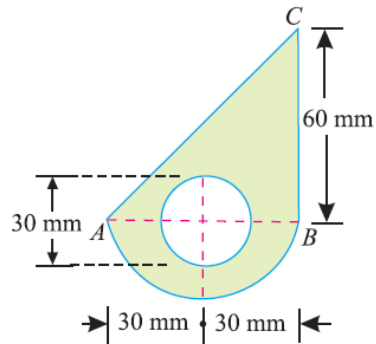

Fig.21
1. Find the moment of inertia of the lamina with a circular hole of 30 mm diameter about the axis AB as shown in Fig.21